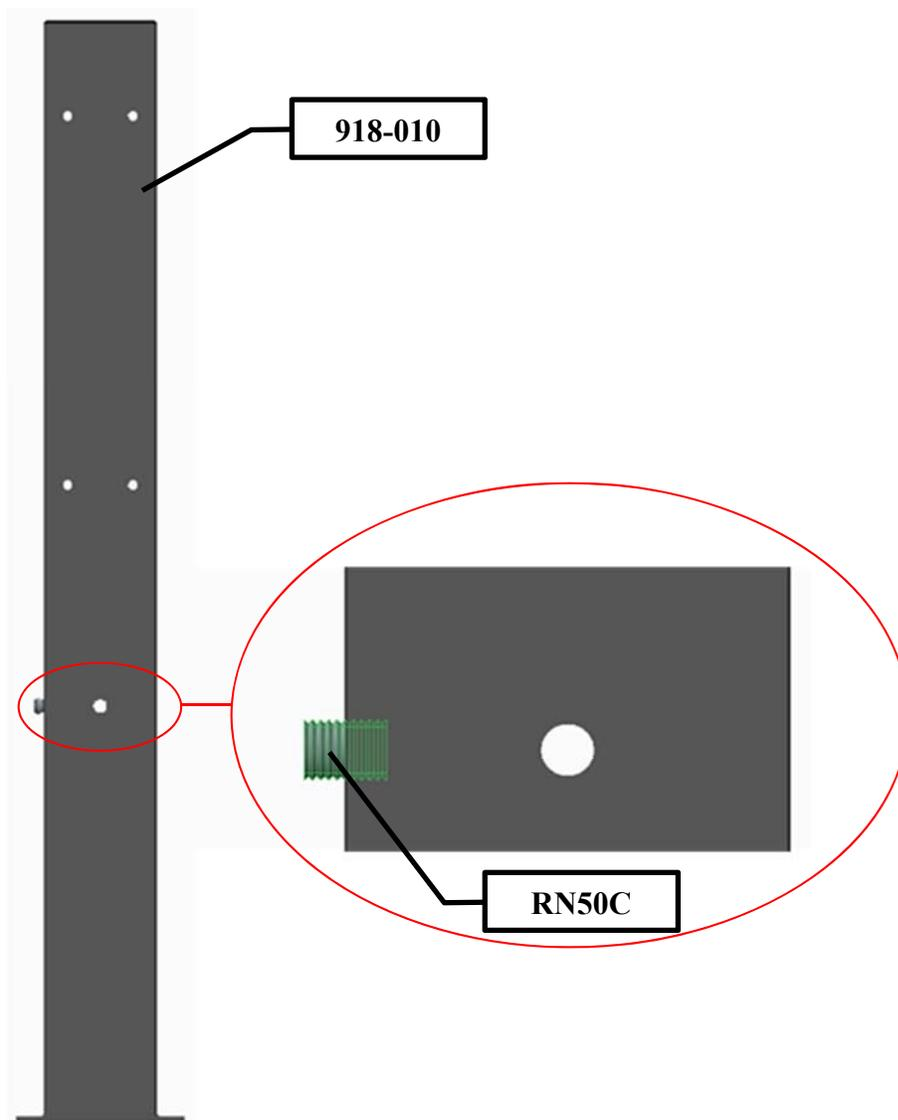

Figure 6: Installation of Conduit Nipple
- A. Install ½" Conduit Nipple RN50C into post 918-010 in the appropriate locations. See Figure 6.